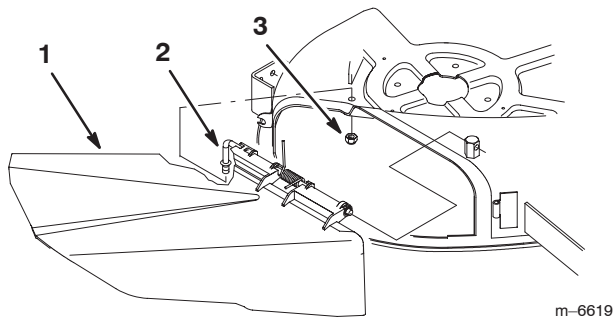

Figure 9
2. Remove the nut, under the mower, holding the pivot rod and grass deflector to the mower (Fig. 9).
3. Remove the pivot rod and grass deflector from the mower (Fig. 9)